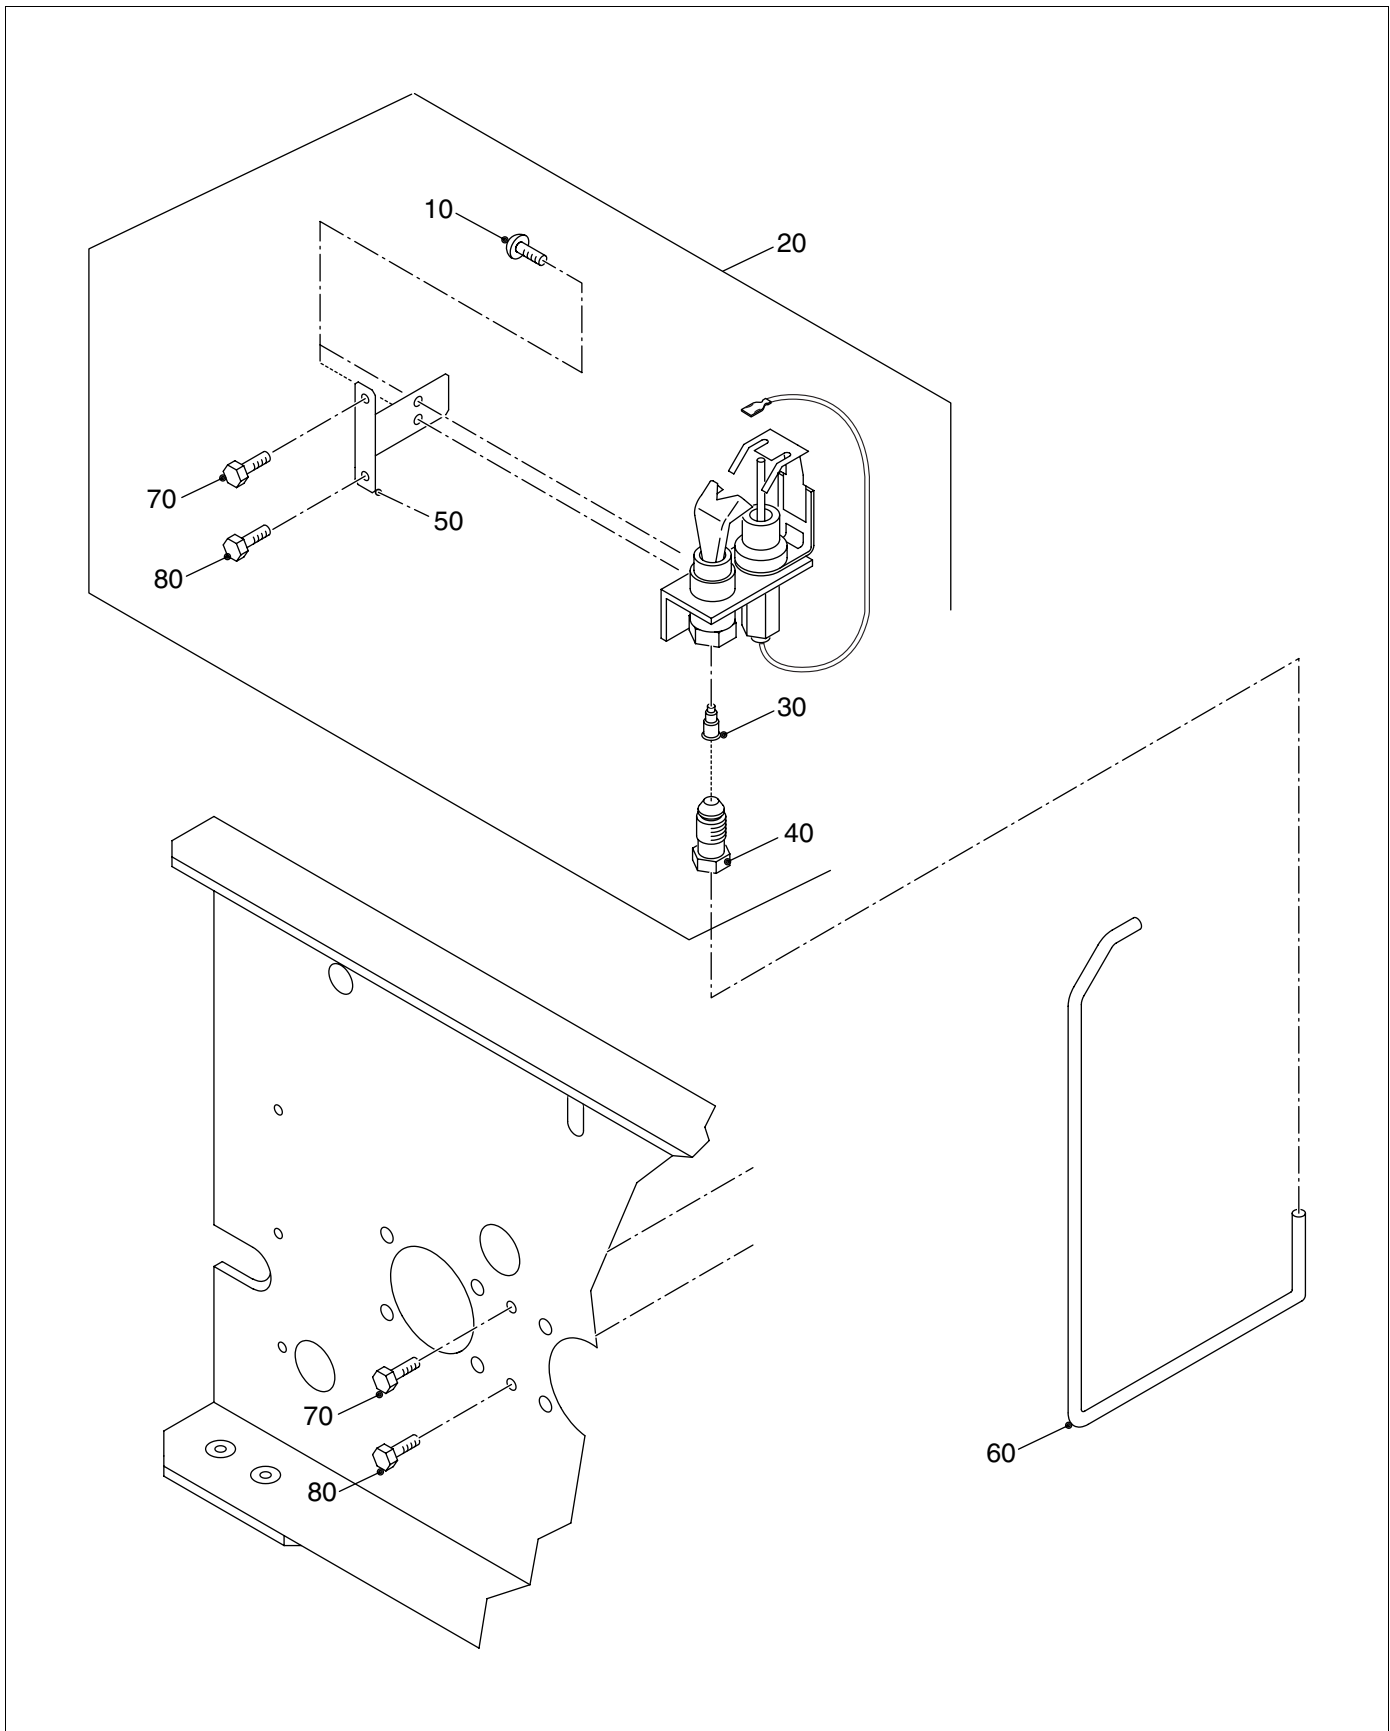

Fig. 57 Pilot burner for G124X II
**Pilot burner for G124X II (→ Fig. 57)**